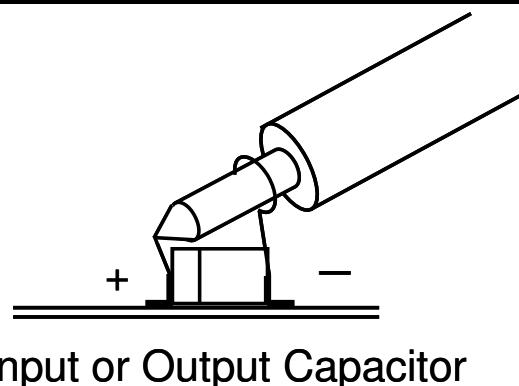

Figure 2. Scope Probe Placements for Measuring Input or Output Ripple on capacitors.
4. Once the proper output voltage is established, adjust the load within the operating range and observe the output voltage regulation, ripple voltage, efficiency and other parameters. When measuring the input or output voltage ripple, care must be taken to avoid a long ground lead on the oscilloscope probe. Measure the input or output voltage ripple by touching the probe tip directly across the Vin or Vout capacitors. See Figure 2 for proper scope probe technique